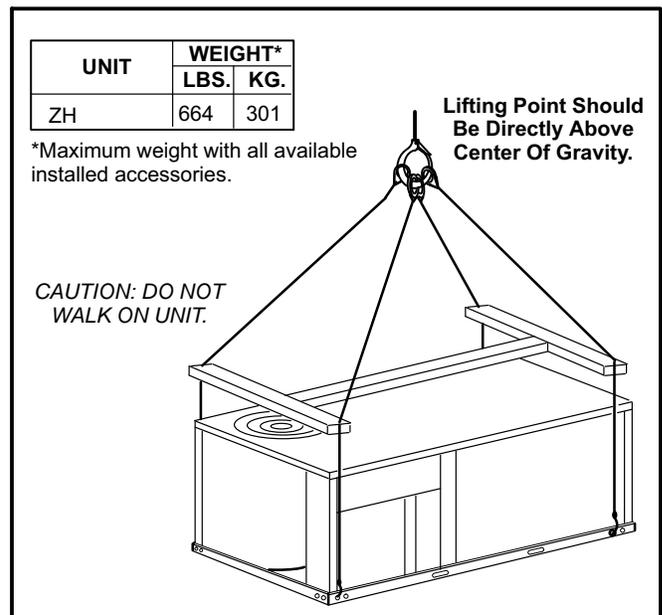

FIGURE 2
- 1- Connect rigging to the unit base using both holes in each corner. See figure 2.